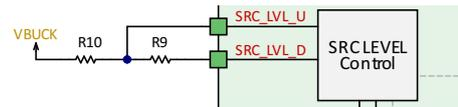

Figure 7: **SRC_LVL_U** and **SRC_LVL_D** connections
With the resistive divider shown in Figure 7, the AEM0094x measures $V_{SRC_LVL_U}$ by connecting **SRC_LVL_D** to **GND** internally. This evaluation is performed every $T_{VSRC_REG,UPDATE}$ (20 s).
- a resistive divider, as shown in Figure 7, calculated as follows: